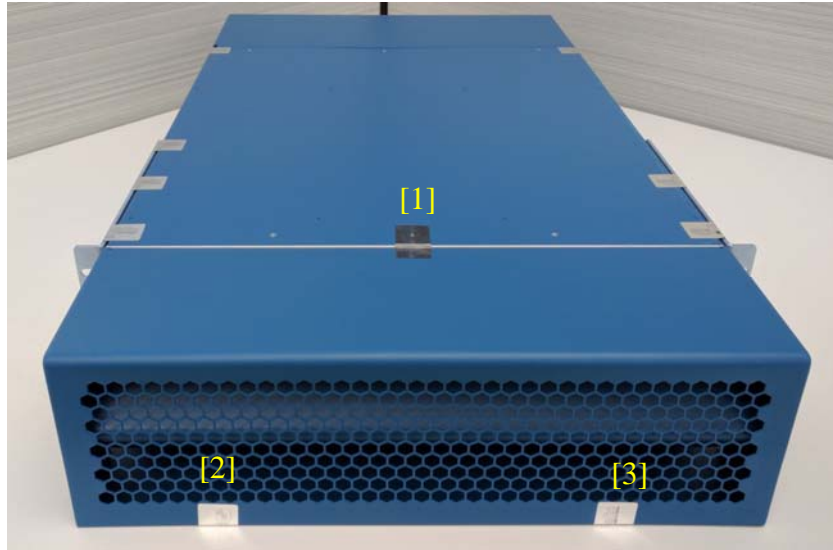

Figure 48 - PA-5200 Series front Opacity Shield
Refer to Appendix I for instructions on installation of the tamper seals and opacity shields for the PA-5200 series. The locations of the twenty-eight (28) tamper-evident seals implemented on the PA-5200 Series modules are shown in Figure 48 through Figure 51